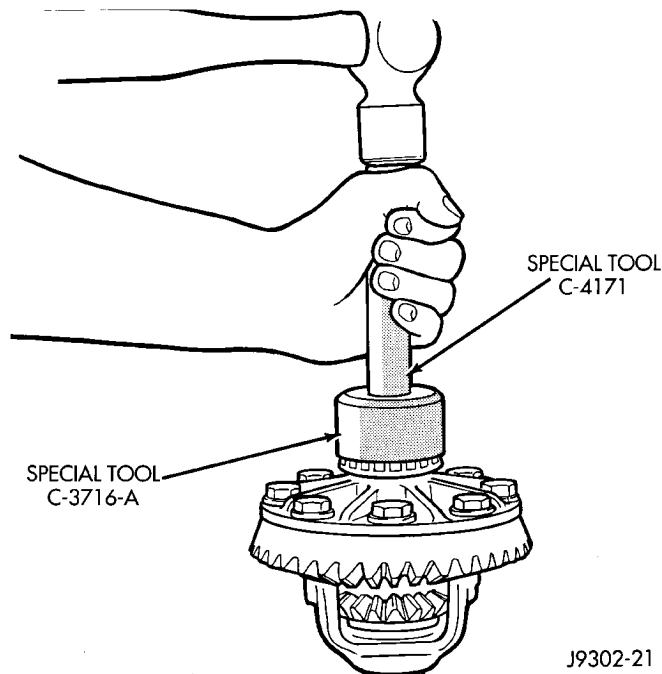

Fig. 38 Differential Side Bearing Installation
(1) Install differential side bearing shims onto differential case hubs.
(2) Using Installer C-3716-A and Handle C-4171, install differential side bearings (Fig. 38).